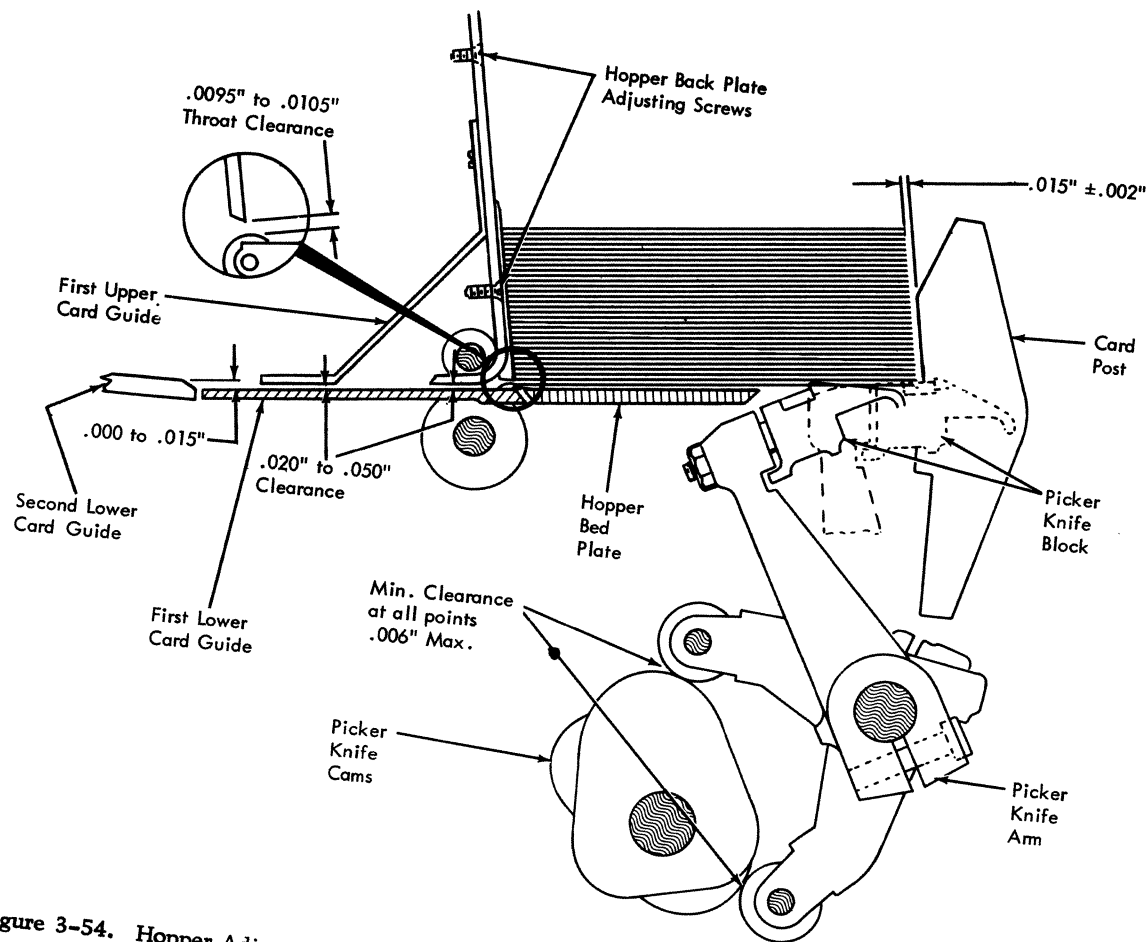

Figure 3-54. Hopper Adjustments
2. Loosen screws on tie bar on the first lower card guide and shift the bar to obtain .020" to .050" clearance between the lower card guide and the hopper back plate guide (Figure 3-54).
The leading edge of the first lower card guide should not be above the point of contact of the first, upper and lower feed rolls. The trailing edge of the first lower card guide should be flush within .015" below the second lower card guide (Figure 3-54).
3. Position the first upper card guide for .020" to .050" clearance between it and the first lower card guide. Adjust by loosening screws in mounting bar and shifting guide to desired position (Figure 3-54).